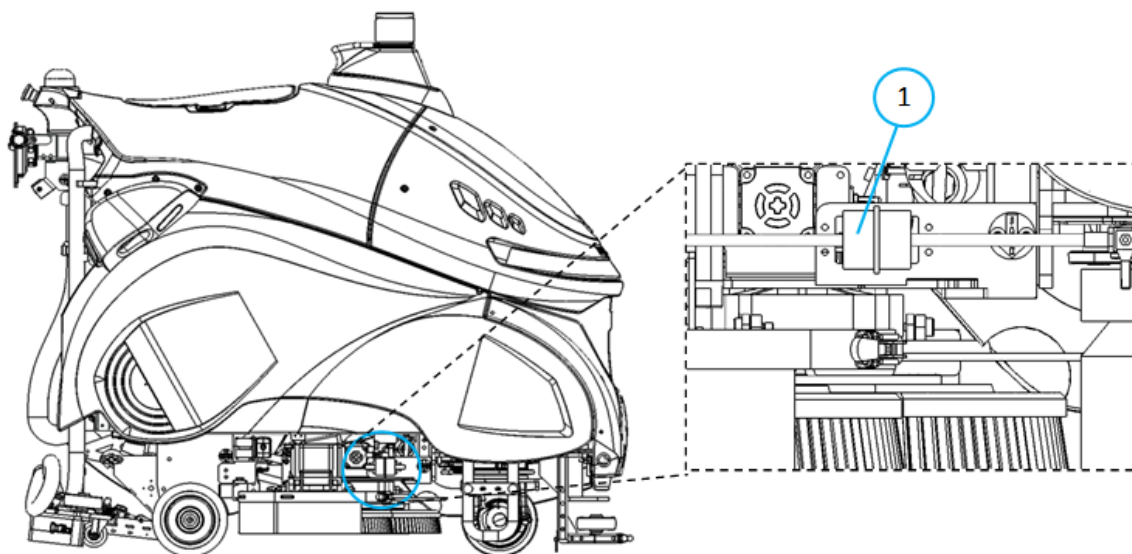

Fig. 2
2. Remove the side skirt panel (Fig.2).